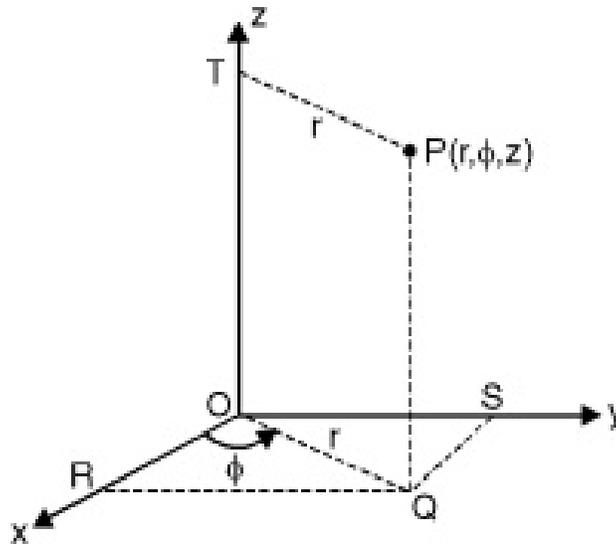

Fig. 6.1.7 : To show co-ordinate transformation
- To find x and y corresponding to $P(r, \phi, z)$, project pt. P on xy plane i.e. point Q . Project OQ on x and y axes. The length of projection on x -axis gives x coordinate (length OR) and length of projection on y axis (OS) gives y coordinate. In Fig. 6.1.7.